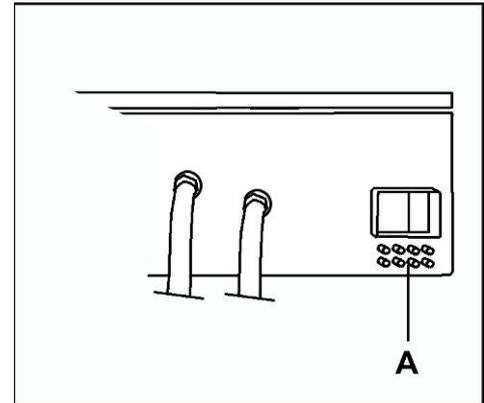

Fig. 3.16
- Connect the hoses to the nipples **A** on the manifold (**Fig. 3.16**).